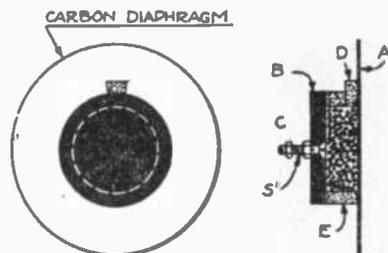

FIG 1
The transmitter is highly sensitive. The shell of a watchcase receiver makes an excellent outer case as shown at (P), Fig. 3. For the interior mechanism we need a thin carbon diaphragm (A), Figs. 1, 2, 3, preferably standard size, 2 1/8 inches wide and 1/64 inch thick. A felt washer (E) 1 1/4 inches in diameter with walls 3/16 inch square should be made with an opening (X) 3/16 inch wide. Glue the washer to the center of the carbon diaphragm.
A piece of paper bent to a scoop will simplify the filling of the chamber. The openings between the ends of the washer must be plugged with a piece of felt (D), Figs. 1 and 2. This can be done with a pin or sharp pointed knife.
FIRST a pair of wooden candlesticks were procured and wired as shown in Fig. 1, the wires ending in contact points spaced as far apart as possible in the socket of the candlestick. Next a pair of candles. Each had two wires run up their length and bent to form a small gap at the base of the wick. The wires were introduced by being heated, so as to melt their way through. These wires were bare and so placed as to make a contact